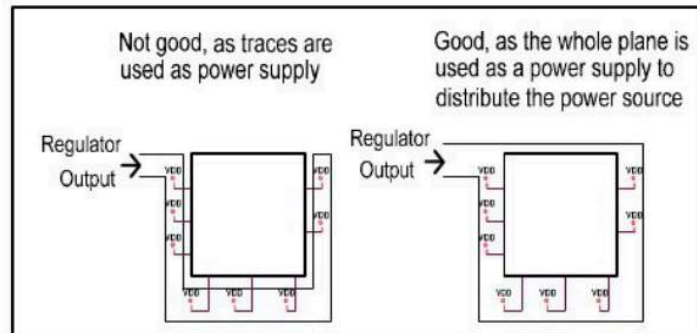

Figure 25. Power Source Distribution
To improve the performance of the power plane, try to keep the contact area between the RTL8211C(L) VDD pins and power plane as large as possible rather than using small narrow traces (Figure 25).